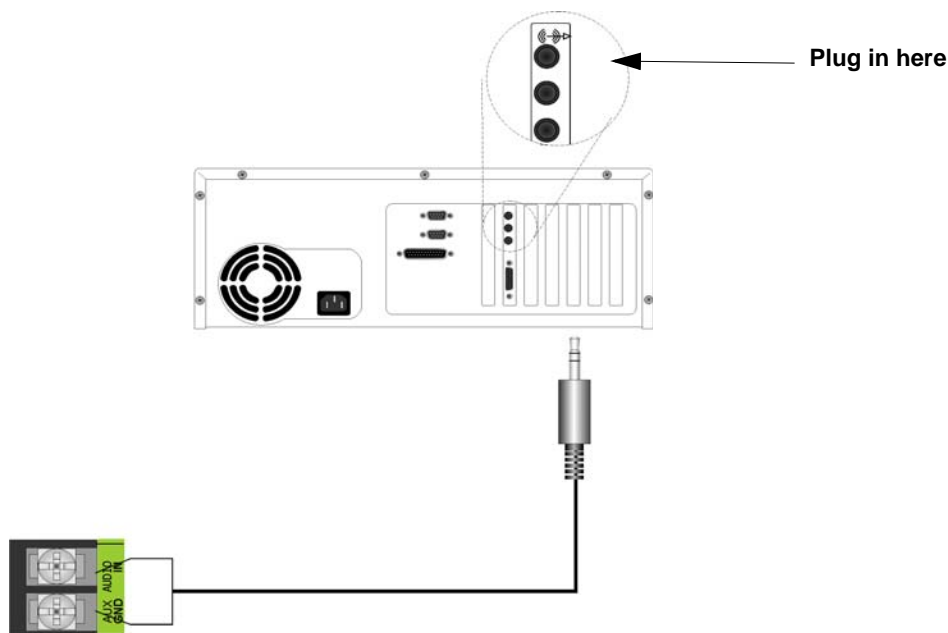

Figure 11-5 AUX Audio Connection for Recording
1. Wire a speaker cable with 1/8" mini plug (Radio Shack Cat. No. 42-2454) to the Aux AUDIO GND and IN terminals. Refer to Figure 11-5.
2. Plug the mini plug into the Line Out/Headphone jack on a PC or laptop. See Figure 11-5.